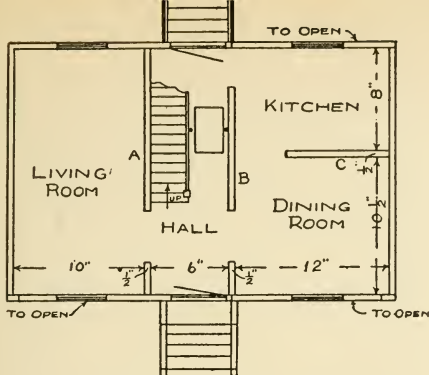

FIG 98 FIRST FLOOR PLAN
**The Floor Plans**, which will be found in Figs. 98, 99, and 100, give the sizes of the rooms, and the patterns for the making of
**The Rear Wall** enclosing the kitchen and bath-room is hinged to open (see Fig. 98), and